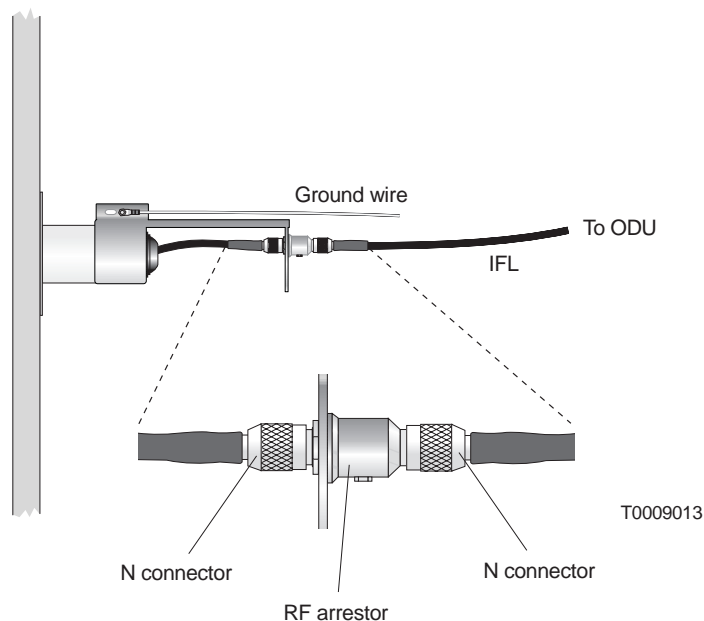

Figure 4-11 Connecting the IFL to the RF arrester
5. Connect the IFL cable to the RF arrester, as shown in figure 4-11.